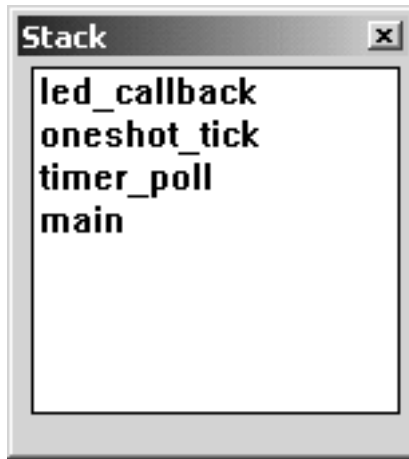

Figure 7-3 Stack Window
5. *Examine Stack Window*—the Stack window is a read-only display of the subroutines which have been pushed on the hardware stack. With the **starter** example stopped in **led_callback**, the stack window appears as shown in Figure 7-3.